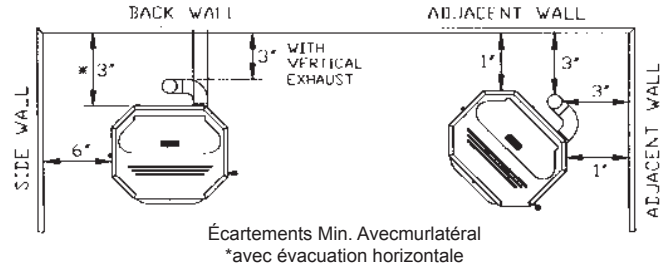

FIGURE 1
1. Position stove, adhering to clearances shown in Figures 1 & 2.